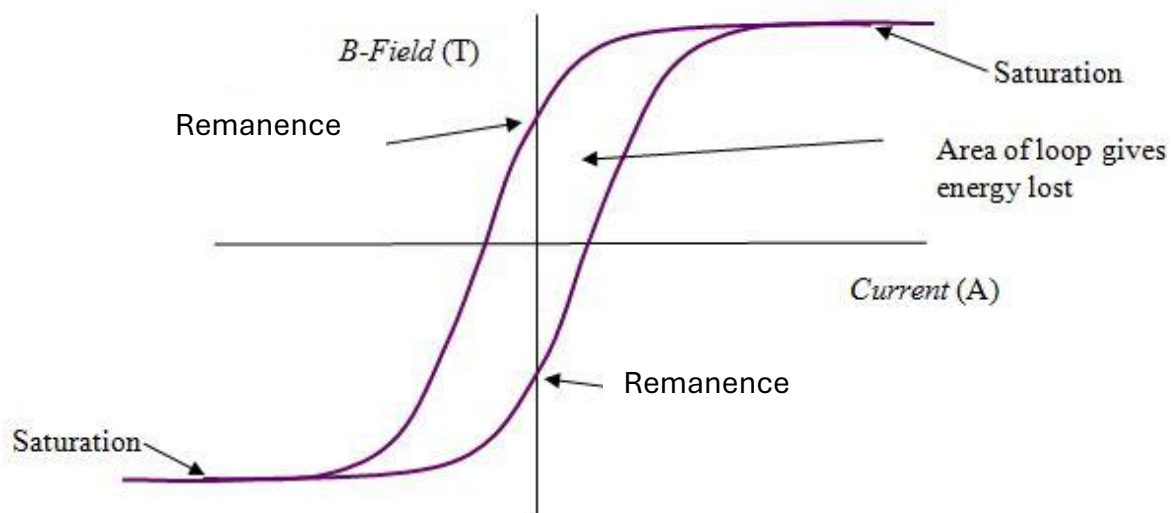

Figure 108 Hysteresis in a transformer core
- Work has to be done in building up the magnetic field in the core. It takes energy to line up all the domains. The energy recovered as the magnetic field falls is less than what is put in. This is called **hysteresis**, shown on the graph below (Figure 108).